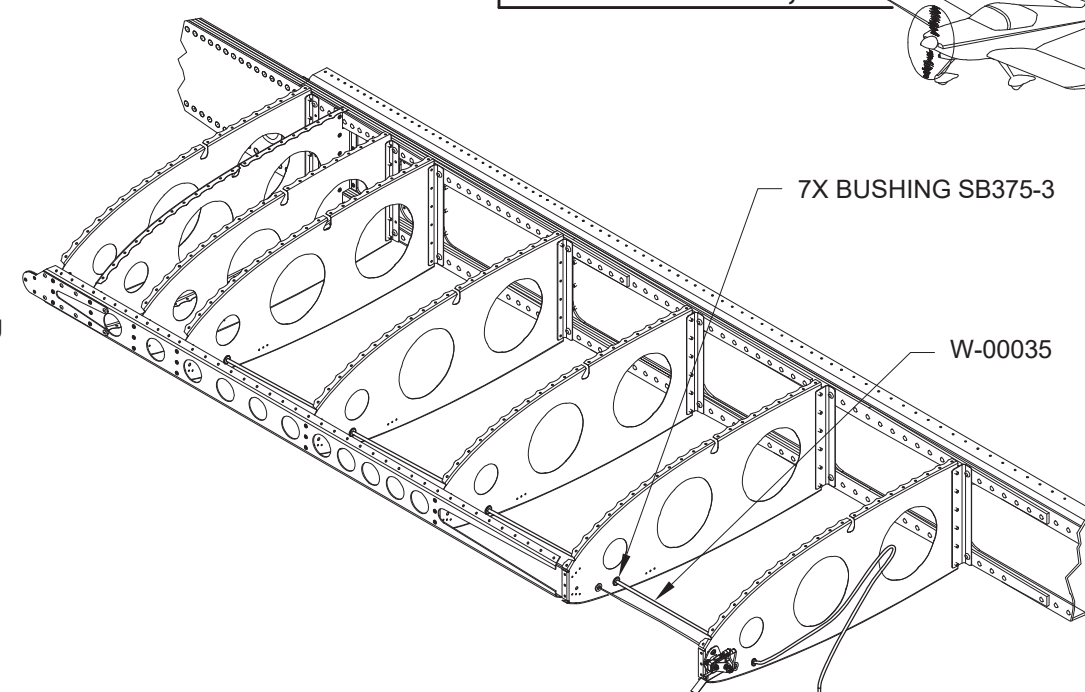

FIGURE 3: WING AOA TUBING ROUTING
Step 6: Starting with the second nose rib from the inboard end, install the snap bushings as shown in Figure 3.
Leave the excess W-00035 tubing coiled in the stall warning wing bay. See Figure 3.